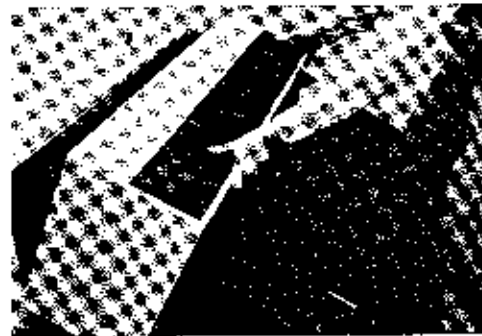

Figure 14.
10. Install the room cabinet. The room cabinet fits into two cutouts at the front of the chassis and hinges back over the chassis. Ensure that the room cabinet is properly seated into the flange of the wall sleeve (see Figure 14).